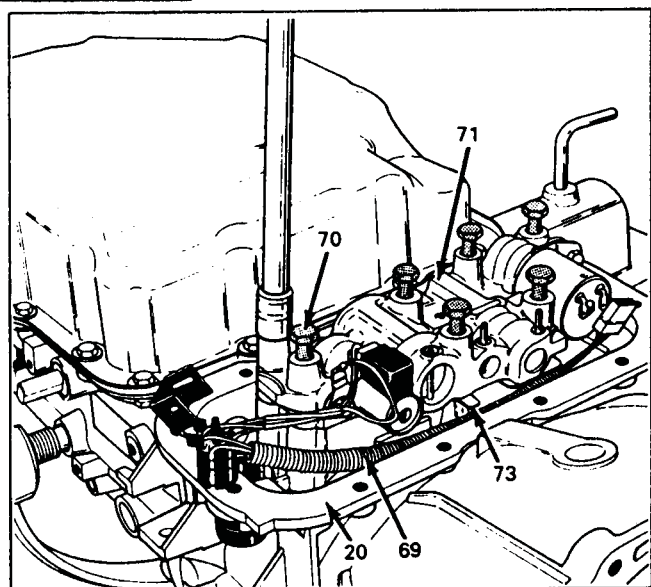

Figure 138
4. Be certain that the adapter case wiring harness is routed under the spacer plate tab (73), as shown in Figure 138, prior to securing adapter case valve body with the seven bolts.
5. Torque the seven adapter case valve body bolts to 14 ft.lb. using 13mm socket as shown in Figure 138.